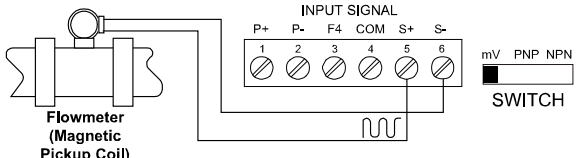

Figure 7: Self-Powered Magnetic Pickup Coil Flowmeter
Signal connections are made to a six-terminal connector labeled SIGNAL on Figure 7. The COM (common) terminal is the return for the input signals.
Relay connections are made to two six-terminal connectors labeled RELAY1 – RELAY4 on Figure 7. Each relay's C terminal is common only to the normally open (NO) and normally closed (NC) contacts of the corresponding relay. The relays' C terminals should not be confused with the COM (common) terminal of the INPUT SIGNAL connector.